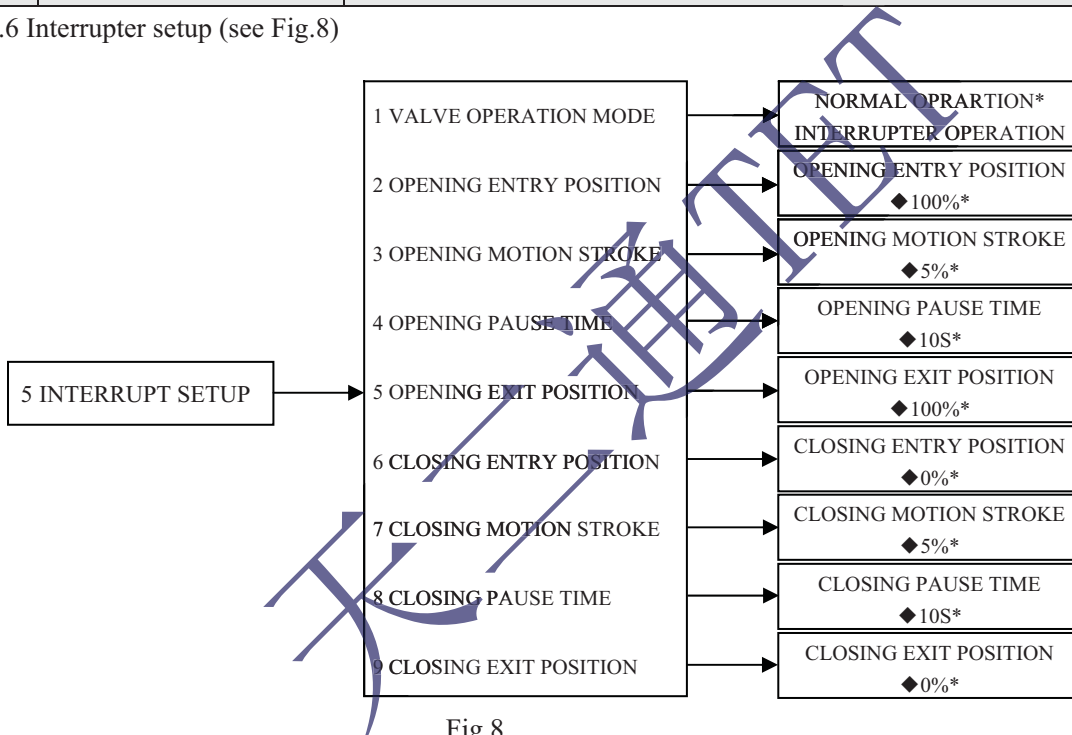

Fig.8
4.6 Interrupter setup (see Fig.8)